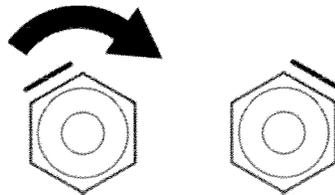

Figure 11 One side of the hexagonal connector (one hex-side)
8. Connect the black hose to the Extend (E) port and the blue hose to the Retract (R) port on the HSC. Tighten the connectors to one hex-side past finger-tight (Figure 11).
11. Connect the black hose to the Extend (E) port and the blue hose to the Retract (R) port on the PDC hydraulic manifold. Tighten the connectors to one hex-side past finger-tight (Figure 11).
- c. Connect the black hose to the Extend (E) port and connect the blue hose to the Retract (R) port on the end of the hydraulic manifold. Tighten the connectors to one hex-side past finger-tight (Figure 11).
- g. Connect the black hose to the Extend (E) port and connect the blue hose to the Retract (R) port on the end of the hydraulic manifold. Tighten the connectors to one hex-side past finger-tight (Figure 11).